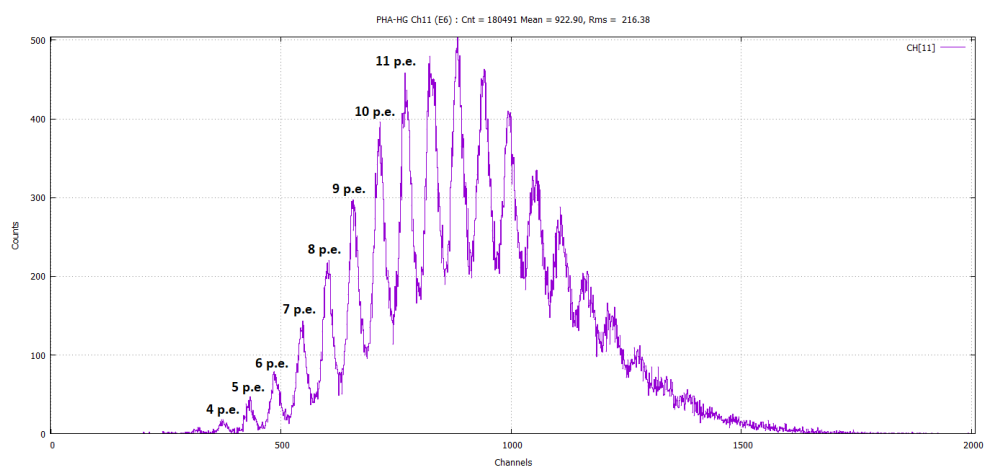

Fig. 10.48: Pulse height amplitude spectrum with the association of each peak to the correspondent number of photoelectrons triggered.
3. Increase the light until a spectrum similar to that in Fig. 10.48 is obtained. The pedestal and the first three photopeaks disappeared; taking advantage of the previous step (see Fig. 10.48), the association of each peak to the correspondent number of photoelectrons triggered is possible.